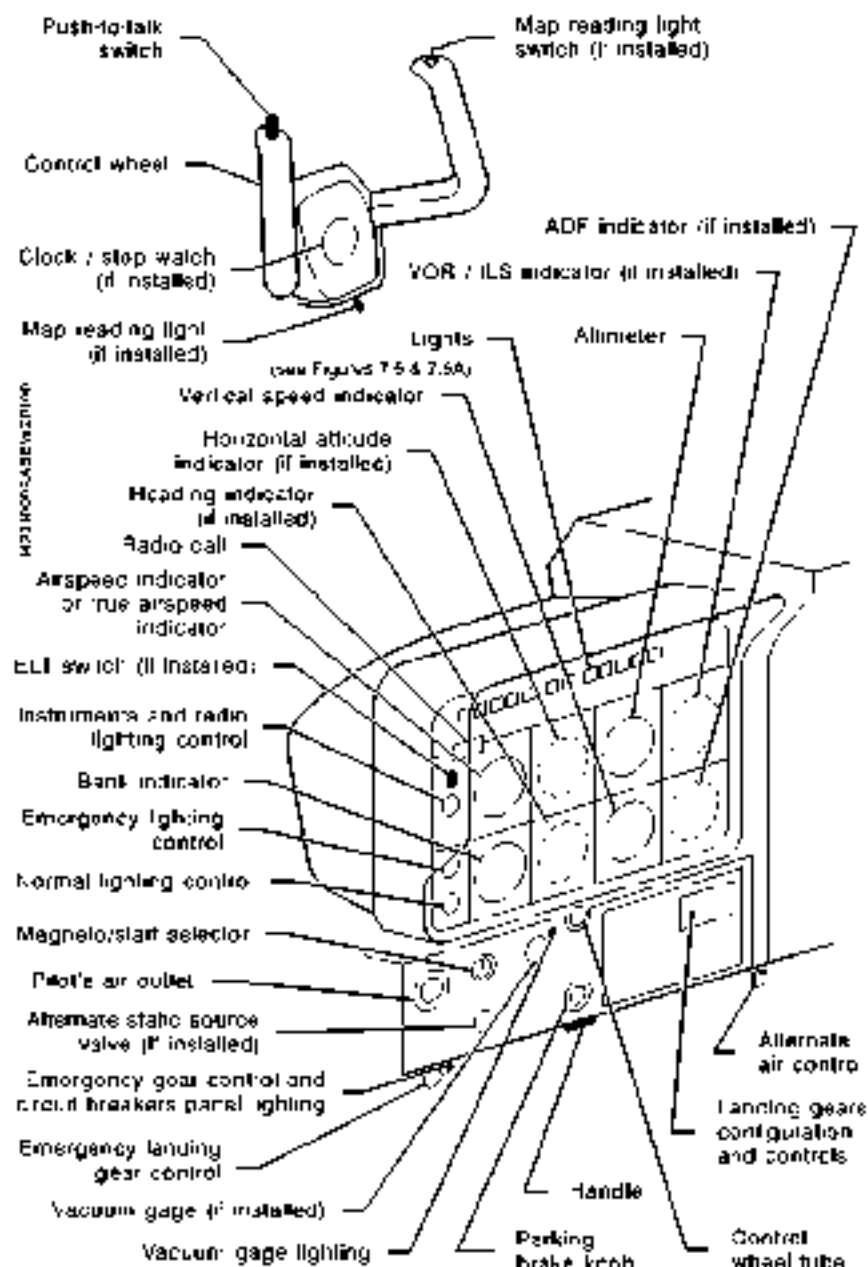

Figure 7.1 - EXAMPLE OF INSTRUMENT PANEL AND L.H. SUBPANEL
L.H. instrument panel (see Figure 7.1) is designed around the basic "T" configuration.
The L.H. panel strip (see Figure 7.1) contains from left to right - L.H. air outlet, magnetos/start selector, parking brake knob, landing gears configuration and controls; under the panel strip, on L.H. side, emergency landing gear control, on R.H. side, the "Alternate Air" control; alternate static source valve and vacuum gage (if installed) complete the L.H. panel strip.